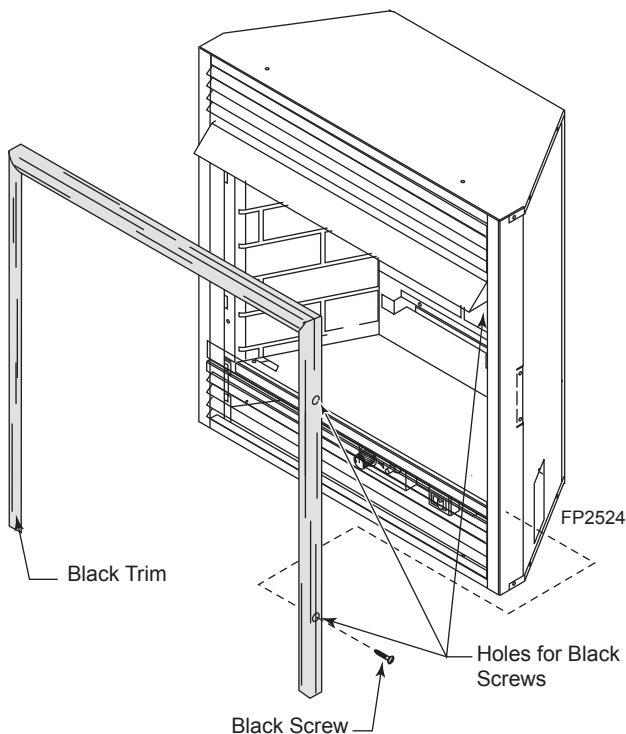

Figure 39 -
NOTE: If you do not attach the trim at the correct corners, use a hammer and screwdriver to tap on the one end of the 90° angle bracket. This will separate the two pieces of trim. *Figure 39*
- Place assembled black trim on front of heater. Using four (4) black screws, secure black trim to sides of heater. *Figure 39*